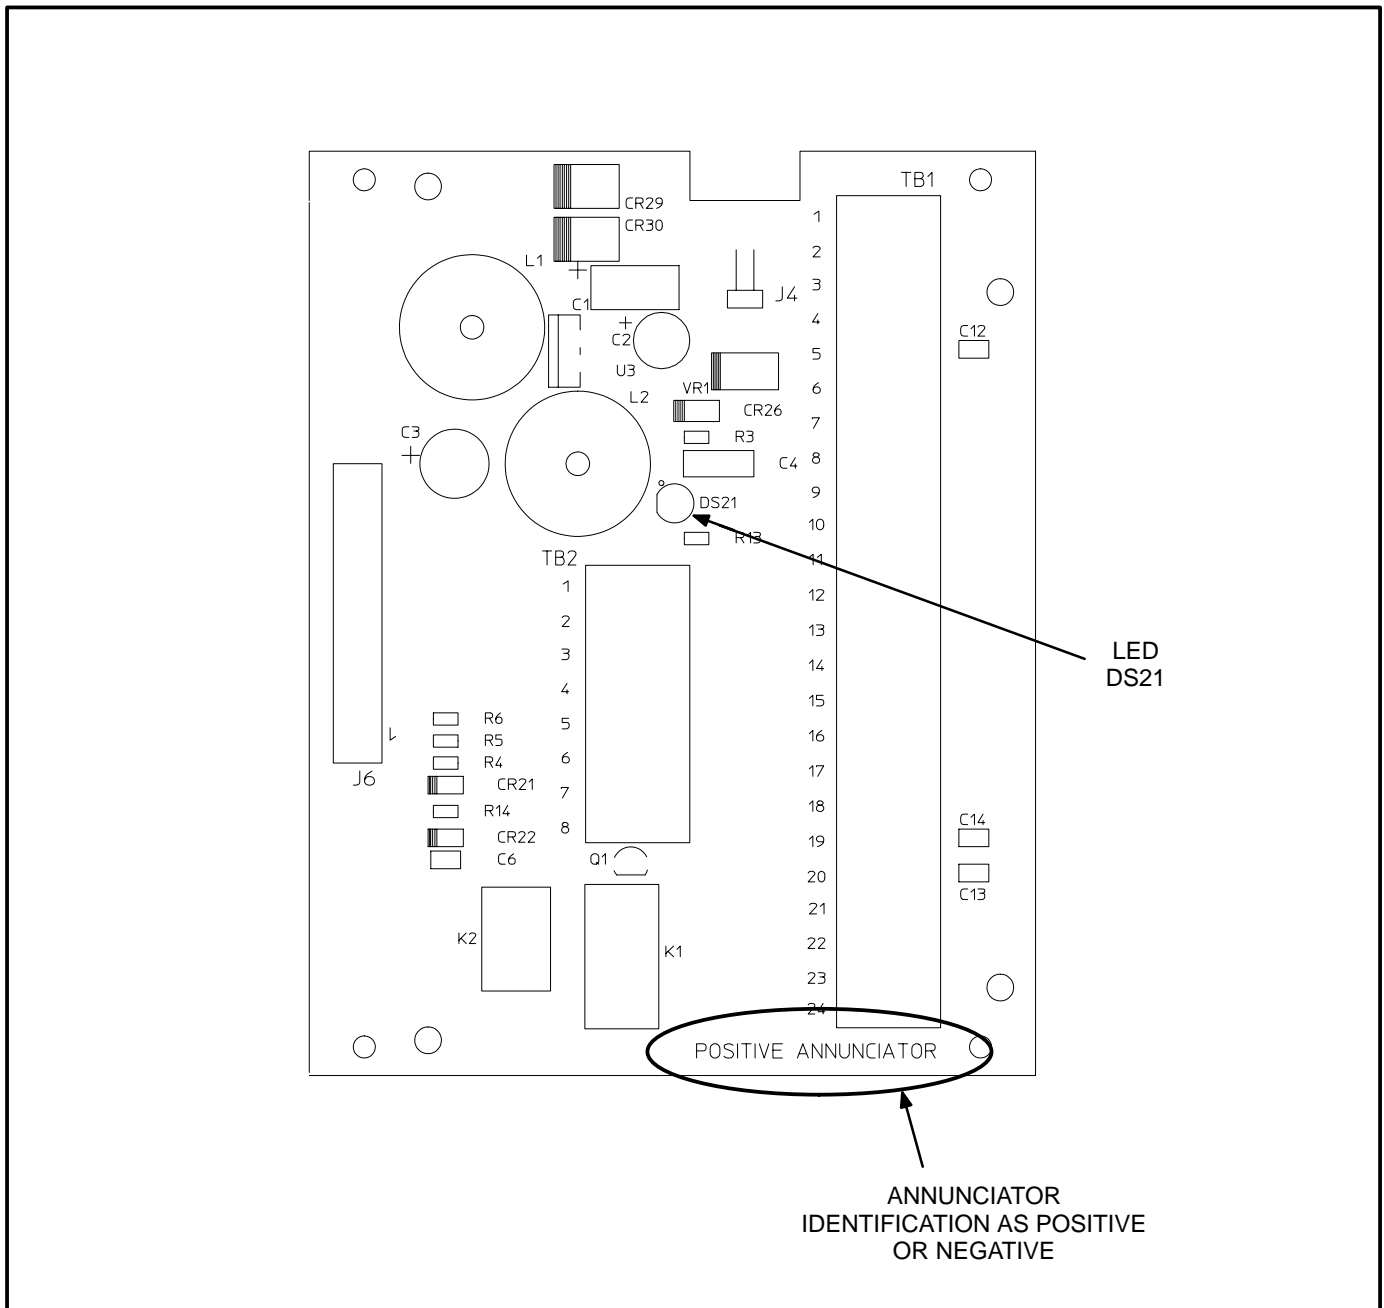

FIGURE 6. ANNUNCIATOR IDENTIFICATION
Confirm that the annunciator is either Positive or Negative by removing the front panel and observing the word Positive or Negative printed on the circuit board below TB1-24 (Figure 6). Make sure that the signal being supplied matches the annunciator control being used.
2. Apply power to the annunciator and verify that the control is running, LED DS21 should be flashing (Figure 6). If LED DS21 is not flashing, the PCB assembly is defective.